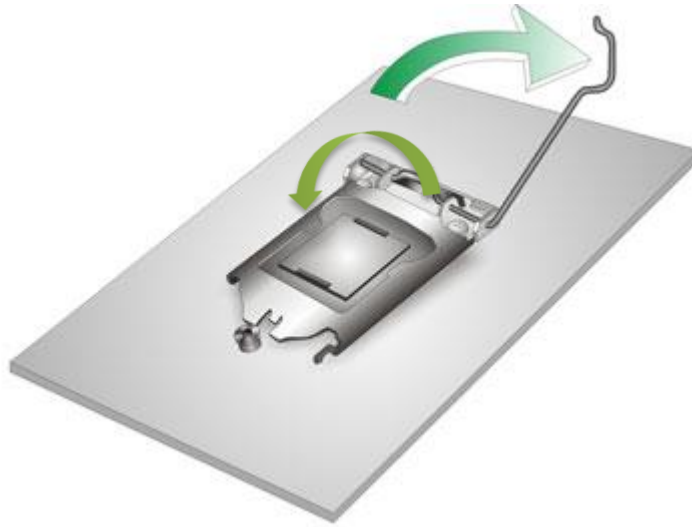

Figure 4-3: Disengage the CPU Socket Load Lever
Step 1: Disengage the load lever by pressing the lever down and slightly outward to clear the retention tab. Fully open the lever. See **Figure 4-3**.